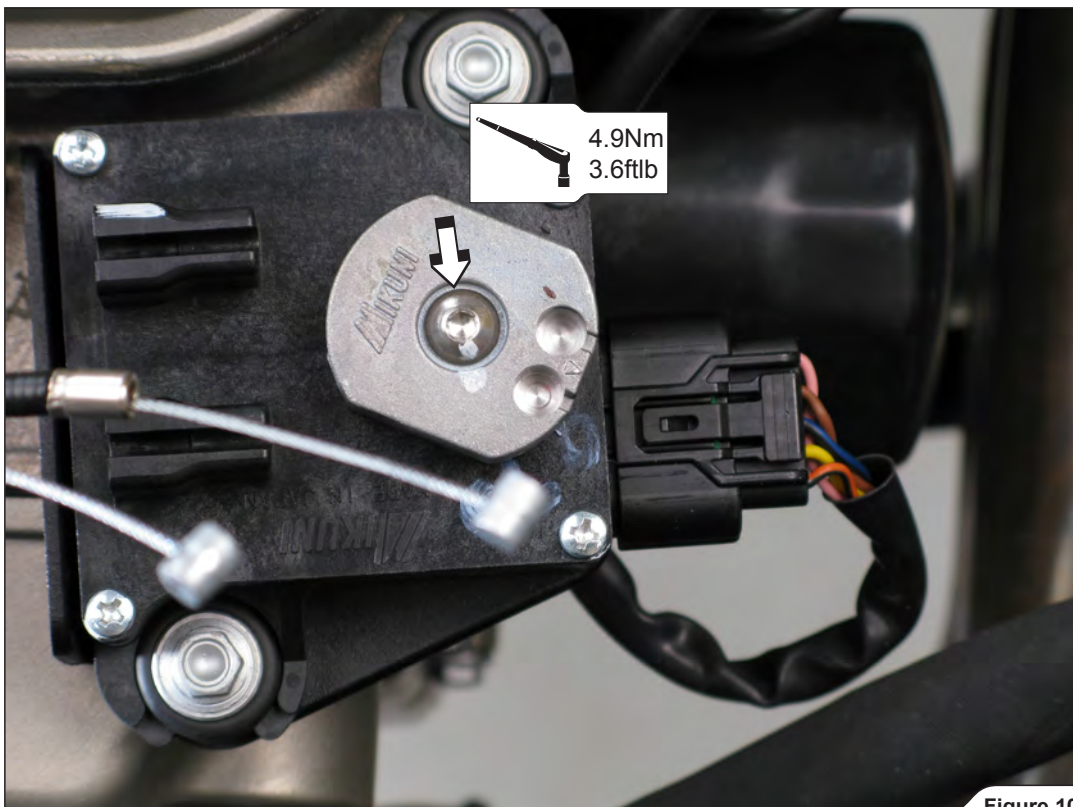

Figure 10
7. Reattach the servo motor wheel and tighten the bolt (Figure 10).